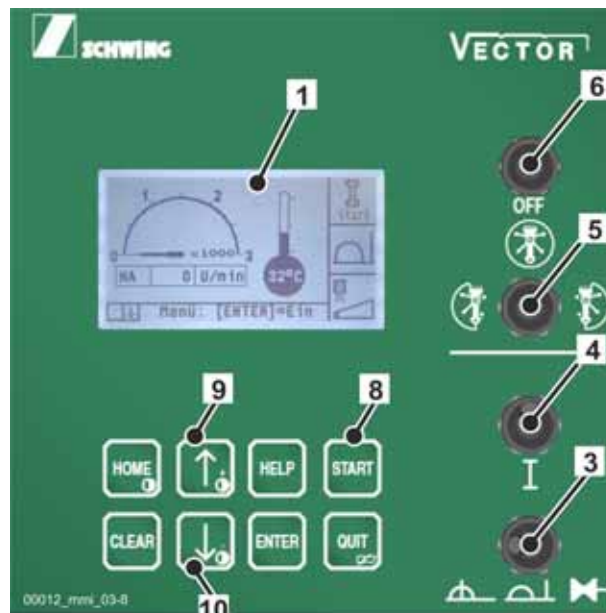

Fig. 517 Select remote control.
- Select remote control with the toggle switch (3) (Fig. 517).